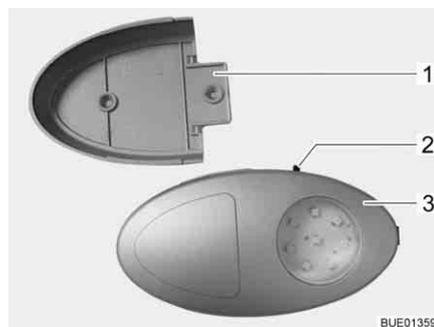

Fig. 84 Wardrobe light
- ▷ The wardrobe light can be removed from its holder (Fig. 84,1) and used as a torch.
The On/Off switch (Fig. 84,2) is located directly on the wardrobe light (Fig. 84,3).